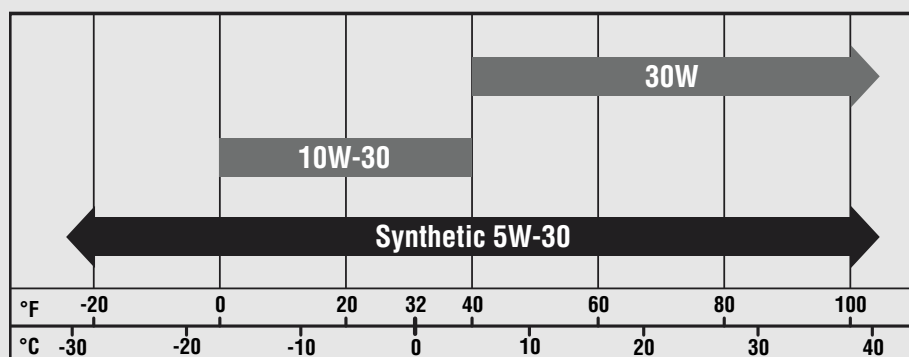

Fig. 2
4. The carburetor can be accessed from the backside of the generator between the engine and the air filter. Loosen the bolt (Fig. 2) on the bottom of the carburetor with a Phillips-head screwdriver (not included). **CAUTION! The carburetor bowl may have gas in it which will leak upon removing the bolt.**